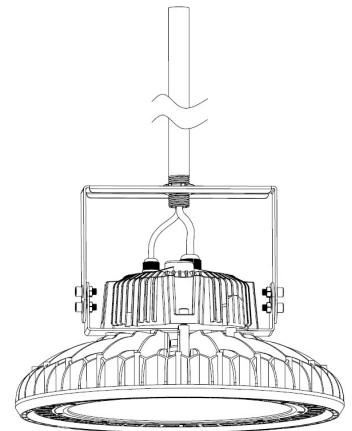

Figure 11
4. After installation, please wire in accordance with local connection standard, and make sure there are good joint protective measures. (Figure 11). Users can adjust 50 degrees to left and right in vertical direction by adjusting the screw on the bracket.